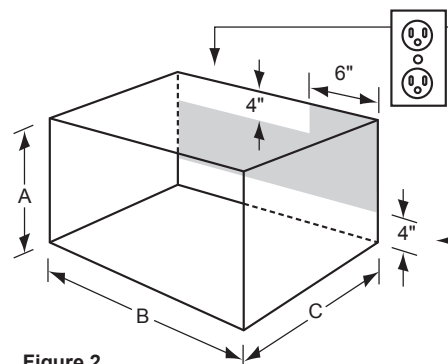

Figure 2
Outlet should NOT be in the shaded area as indicated on Figure 2. If the dimension of DEPTH (C) is more than 21", the outlet location may be any area on the rear wall.